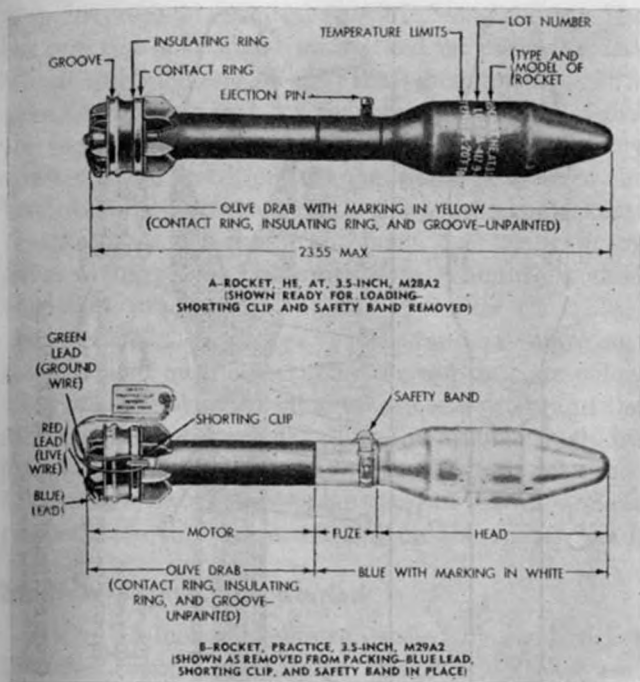

Figure 18. 3.5-inch rockets, M28A2 and M29A2.
a. Ammunition for the 3.5-inch rocket launcher is issued as a complete rocket of fixed ammunition (figs. 18 and 19). It can be fired from either the M20, M20B1, M20A1, or M20A1B1 rocket launcher models. The propelling charge is not adjustable, and the rocket is loaded into the launcher as a unit. The complete rocket consists of a rocket head, a fuze, and a rocket motor, which contains the propellant and its igniter. A nozzle and fin assembly are rigidly attached to the rear of the motor. The fuze body, threaded at both ends, serves also as a coupling for the rocket head and motor.
(figs. 18 and 19)